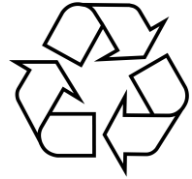

Figure 2 (1)
e. Which of the sustainability 'R's does the symbol shown in Figure 2 indicate?